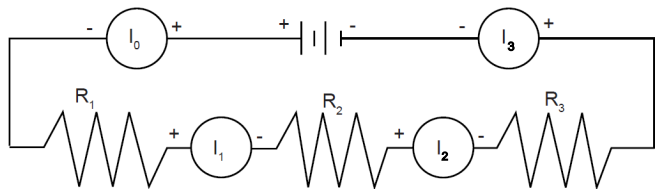

Figure 6.3
3. Now move the multimeter to the positions indicated in Figure 6.3 on the next page, each time interrupting the circuit and carefully measuring the current in each one. Complete Table 6.1 on the next page.